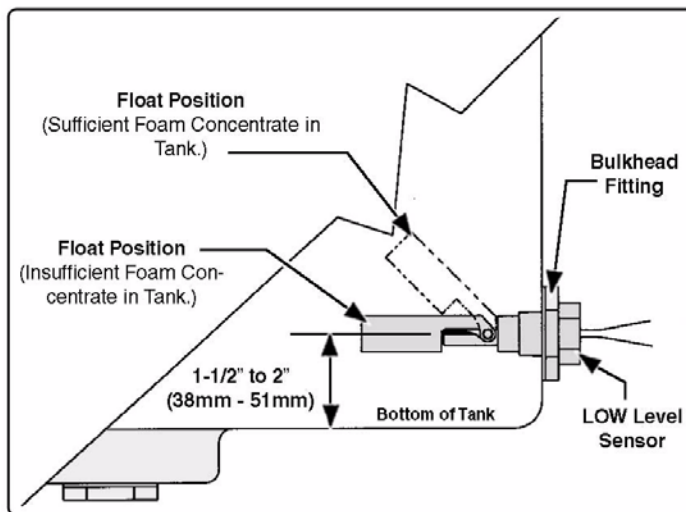

Figure 3-39: Side Mount Sensor Location Dimensions
1. The sensor has 1/2" (13mm) NPT threads. If tank design and construction allows, the side mount sensor is threaded directly into the side of the tank at the proper height. (See Figure 3-39: "Side Mount Sensor Location Dimensions.")